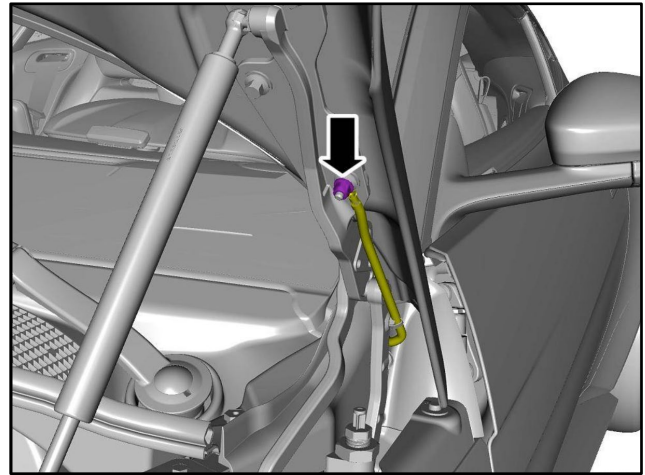

Figure 2
11. Remove the earth strap on the left-side bonnet hinge (refer to Figure 2).
26. Attach the earth strap on the left-side bonnet hinge (refer to Figure 2).